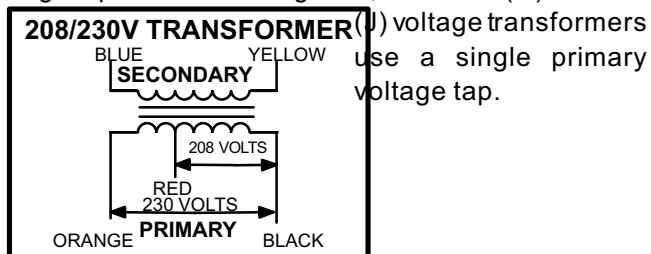

FIGURE 2
All TPA models use a single line voltage to 24VAC transformer mounted in the control box. Transformer T1 supplies power to control circuits in the TPA unit. The transformer is rated at 70VA and is protected by a 3.5 amp circuit breaker (CB8). CB8 is internal to the transformer. The 208/230 (Y) voltage transformers use two primary voltage taps as shown in figure 2, while 460 (G) and 575